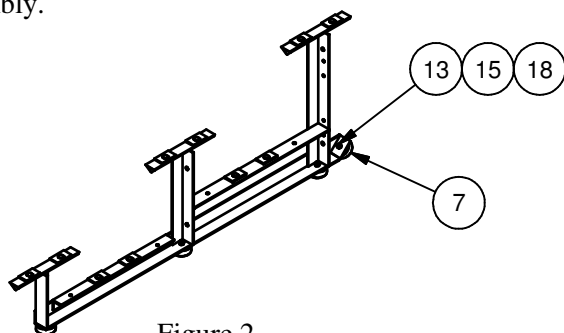
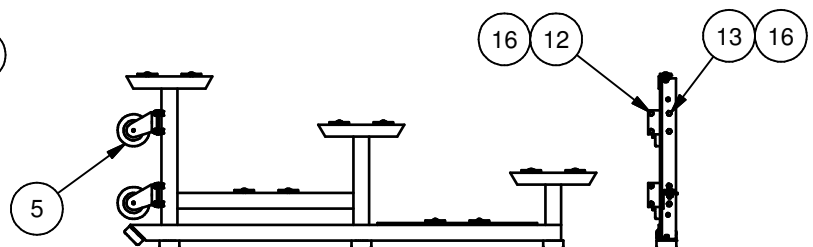

Figure 2
Figure 3
2. Pre-assemble the frames with the rubber pads and caster assemblies. Install a rubber foot at each hole location under the seat vertical and the angled position at the rear of the frame. Use the 5/16" x 1-1/4" hex bolt, 5/16" flat washer between the head of the bolt and the rubber pad, and a 5/16" nylon lock nut (see figure 2). Attach two caster assemblies to each frame (see figure 3). Use the 5/16" x 1" hex bolts and 5/16" whizlock nuts. Four bolts and nuts are required for each caster assembly.